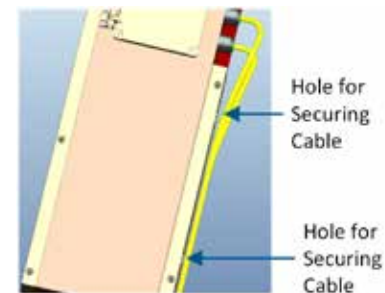

Figure 18. Securing Power Cable
Step 6. It is strongly recommended to secure the power cords to the enclosure. Additional holes are provided for this purpose. See Figure 18.